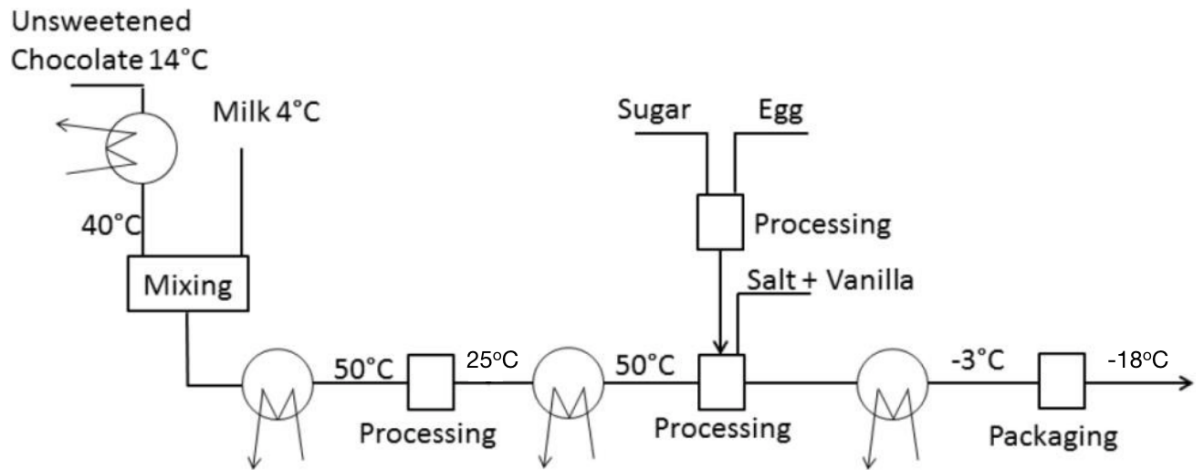

Figure 4: Ice cream production
- Ice cream production (Fig. 4)